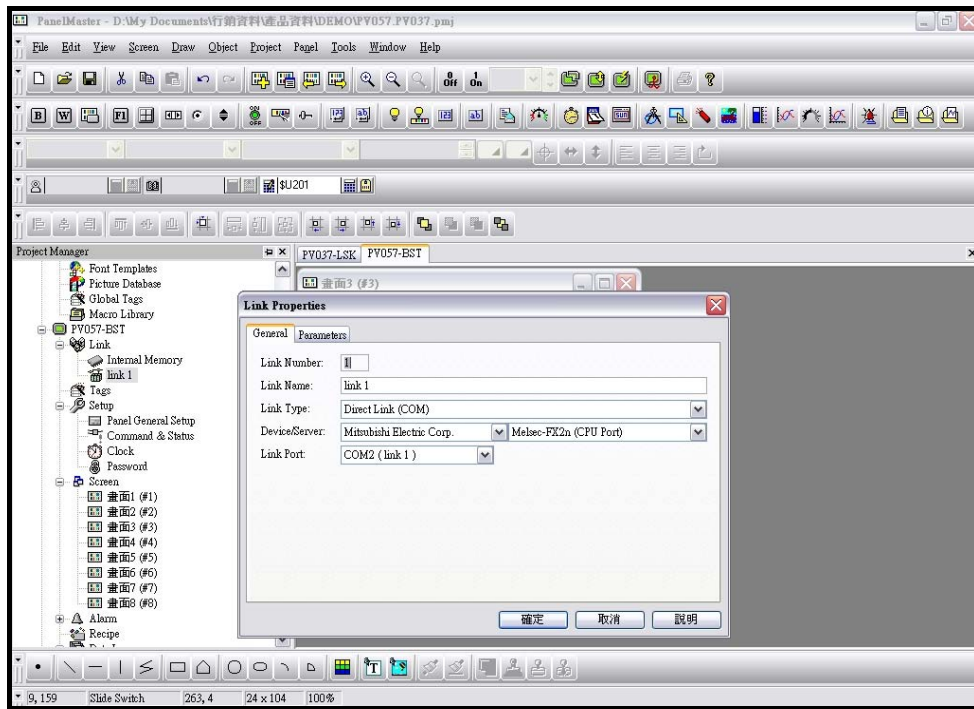

Figure 2-96 New project\_step 5\_ setting the second communication device
**Step 5 :** When the setting completed, the user can add another communication devices; S7-200 PLC in com2 as shown in figure 2-96.